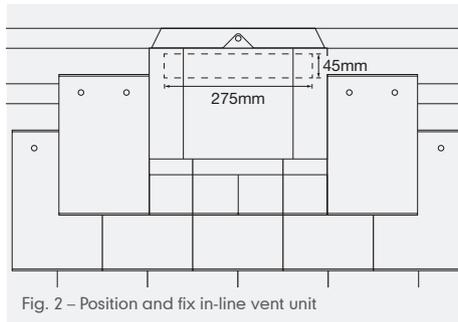

Fig. 2 - Position and fix in-line vent unit
- 4 Make a second horizontal cut 340mm wide in the underlay between the next two battens directly above the opening already created. Slide the underlay protector unit through the horizontal cut as shown (Fig. 2).